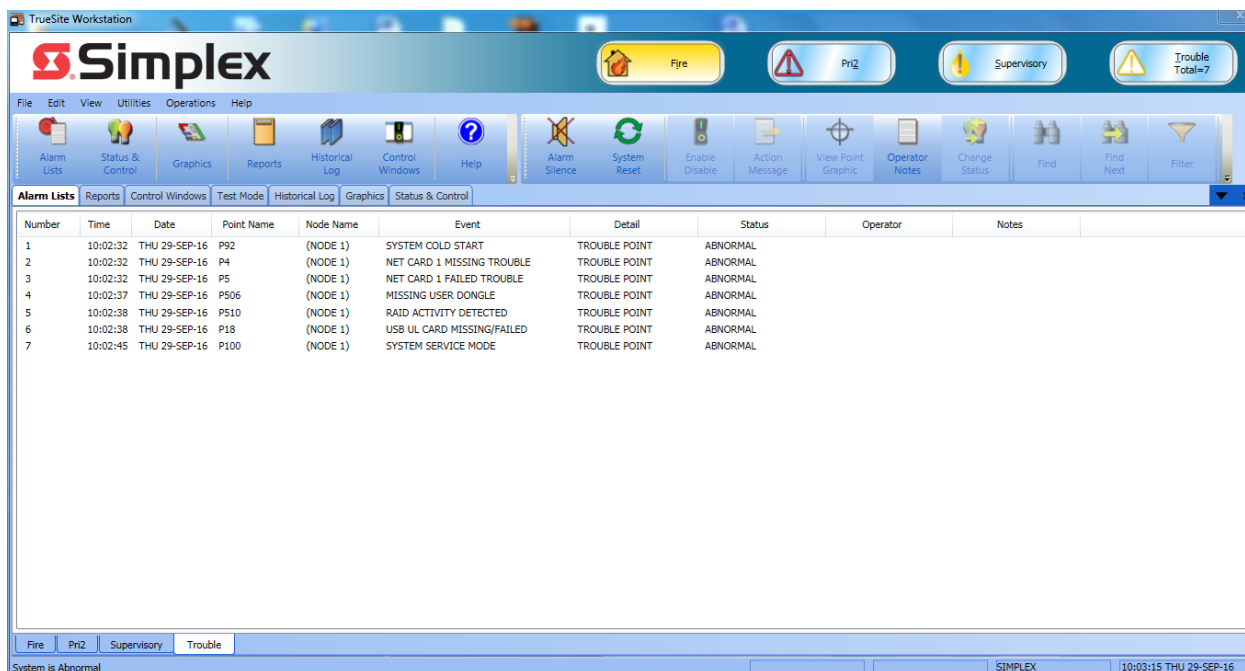
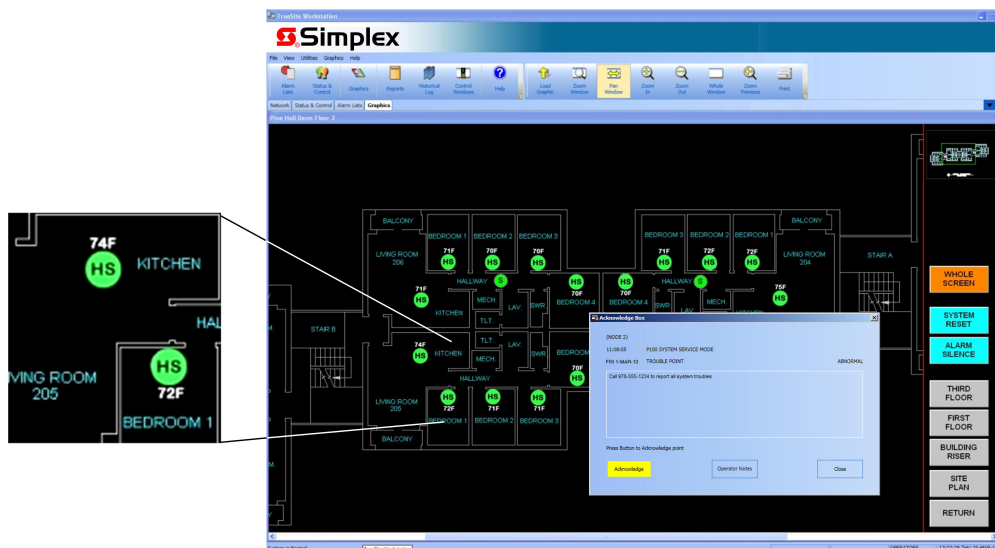

Figure 3: TrueSite Incident Commander Sample Alarm List Screen
Figure 4: TrueSite Incident Commander Sample Graphic Screen with Detail Enlargement and Acknowledge Box
**Operation.** When fire alarm network status changes occur, the screen displays the type and location of the alarm (or other activity) and the appropriate header buttons appear. In the historical log screen, as displayed in Figure 3, Fire, Priority 2, Supervisory, and Trouble buttons are shown with an active Trouble indicated.
**Sample Screens.** Figure 3 is representative of a historical view screen. Figure 4 is representative of a system graphic screen with icons representing the devices of interest. Screen choices can be configured per system preference, however, when using an optional second monitor, both screen types can be visible for operator convenience.
**Historical Log and List Details.** Figure 3 shows historical log details. The display format is similar to the display for active list items such as the alarm list. Displayed information can be sorted on-screen by each category shown including number, time, date, and point name. List information can be reviewed on the screen, printed at a local or remote system printer, or can be written to an electronic file for compatibility with spreadsheet and database programs.
**Graphic Screen Controls.** (Refer to Figure 4) Icons can be added to identify the location and type of the device of interest and the graphics control toolbar (located at the top of the graphic) can be used to pan and zoom for more precise detail. Programmable coverage zones can be added with selectable area and zoom level. A fixed area site plan (key plan) with action buttons and screen locator can be added as shown. Pan and zoom are tracked by a green rectangle in the key plan.
**Action Messages.** In addition to screen text or graphic information, the operator can be presented with specific action messages that provide emergency response information and directions. These action messages are easily field edited for local requirements. The appropriate action message would be located in an Acknowledge dialog box as shown in the graphics screen Figure 4.